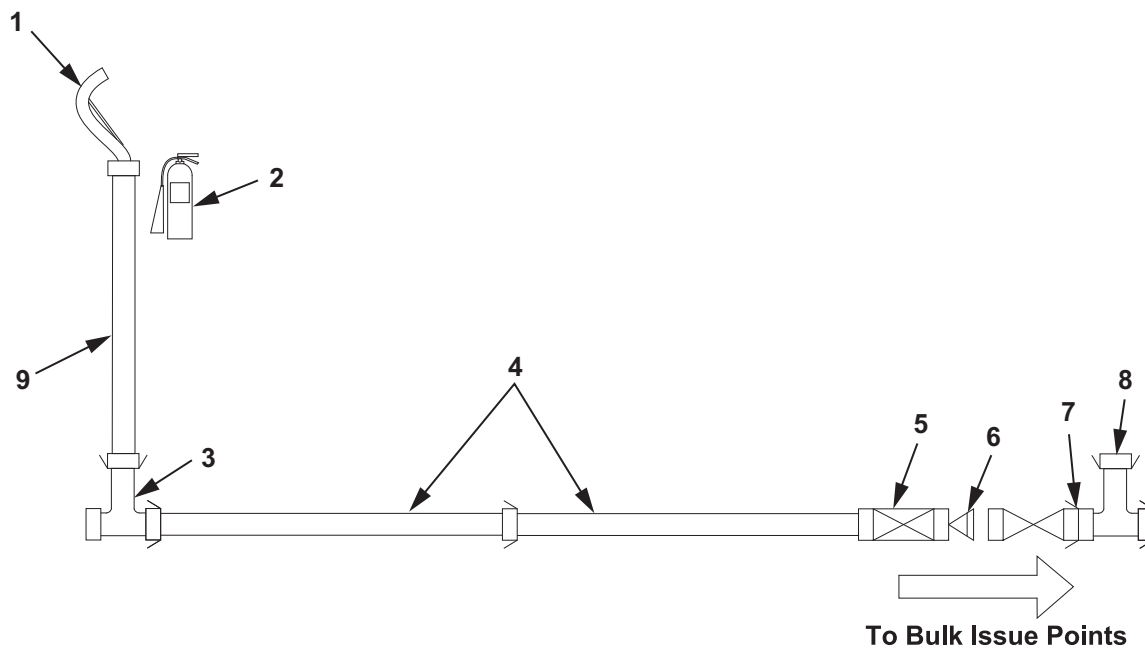

Figure 14. Installation of First Retail Issue Point.
3. Connect gate valve (Figure 14, Item 7) to the female X male X male tee assembly (Figure 14, Item 8) pointing towards the issue point.
4. Connect female 4 in. X male 2 in. reducer (Figure 14, Item 6) to gate valve (Figure 14, Item 7).
6. Connect female 2 in. camlock X 2 in. valved dry-break adapter (Figure 14, Item 5) to female 4 in. X male 2 in. reducer (Figure 14, Item 6).
8. Connect the sections of 2 in. X 50 ft discharge hose (Figure 14, Item 5) to the dry-break end of valved dry-break adapter (Figure 14, Item 5).
10. Connect the 2 in. dry-break tee assembly (Figure 14, Item 3) to the end of 2 in. X 50 ft discharge hose (Figure 14, Item 5).
12. Connect the section of 2 in. X 50 ft discharge hose (Figure 14, Item 9) to the 2 in. dry-break tee assembly (Figure 14, Item 3).
13. Connect a D1 nozzle (Figure 14, Item 1) to the section of 2 in. X 50 ft discharge hose (Figure 14, Item 9).
15. Position the fire extinguisher (Figure 14, Item 2) adjacent to the end of the 2 in. X 50 ft discharge hose (Figure 14, Item 9).
16. Position nozzle stand and ground rod assembly at end of discharge hose (Figure 14, Item 9).